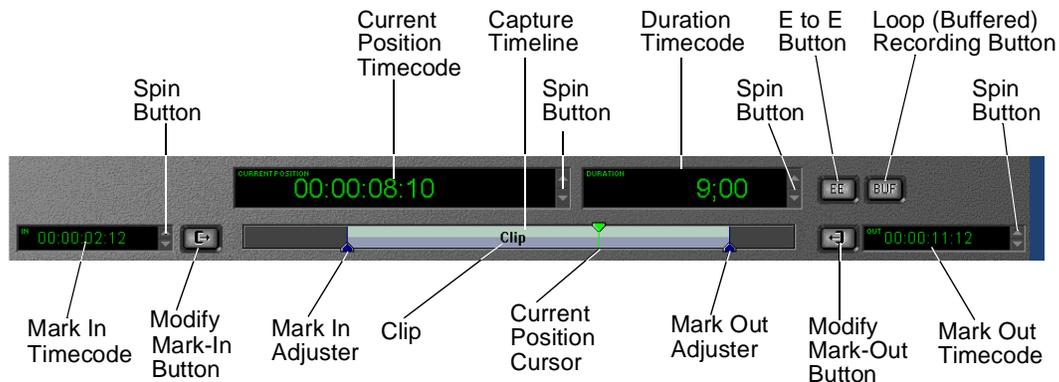

Figure 119. Capture timeline
- Drag the mark-in or mark-out cursors to a new position on the timeline (see the mark-in and mark-out cursors in Figure 119, page 216).
- Adjust the in and out marks by entering the new timecodes in the boxes provided (see the timecode entry boxes in Figure 119, page 216).